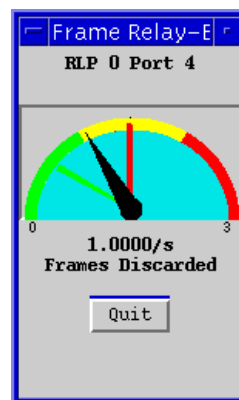

Figure 5-7. Frame Relay Errors
2. Drag down to **Frame Relay Errors**, and release. The Frame Relay Errors window, Figure 5-7, will appear.